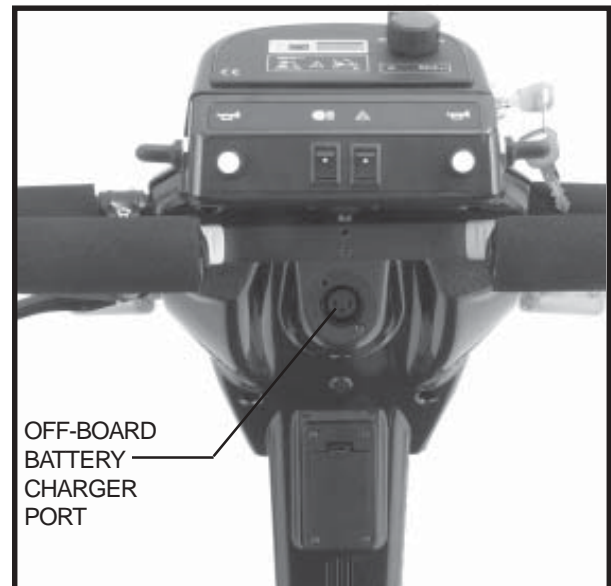

Figure 12. Off-board Battery Charger Port
The off-board battery charger connects to your scooter via the off-board battery charger port located on the rear tiller shroud. We recommend that you charge the batteries for 8 to 14 hours after daily use. See figure 12.
4. Connect the off-board battery charger to the off-board battery charger port and the standard wall outlet. See figure 12.